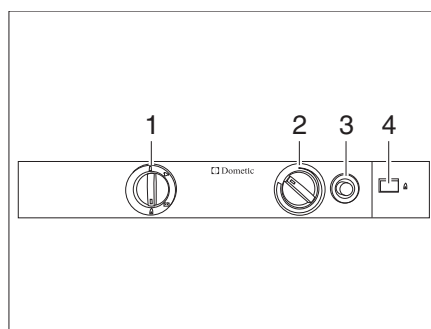

Fig. 322 Operating controls for the refrigerator (Dometic 8 series)
- Set the energy selector switch (Fig. 322,1) to "🔥".
- Press the control knob (Fig. 322,2), turn it to the highest level and hold it down. Wait until gas gets into the burner.
- Press the gas ignition button (Fig. 322,3) and keep it pressed. Ignition will take place automatically.
- Keep gas ignition button (Fig. 322,3) pressed down until the flame indicator (Fig. 322,4) becomes green and then release it.
- Keep the control knob (Fig. 322,2) pressed for another 10 to 15 seconds, then release it.
- Set the energy selector switch (Fig. 322,1) to "⏏".
- Use the control knob (Fig. 322,2) to adjust the refrigerating temperature.